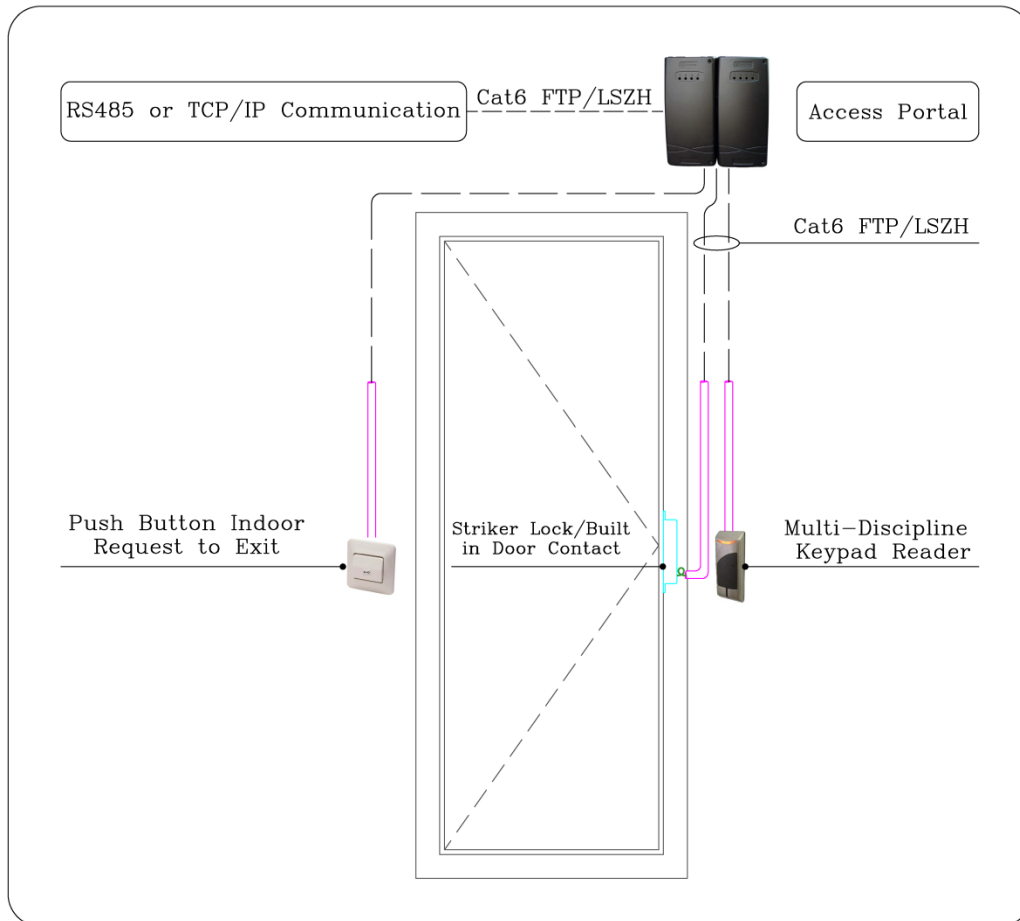

Figure 1.2.11: Door Connection to the AMS
- If the end user wants to add the access control system of his/her apartment to the AMS, a floor controller should be installed in the Telecom room located at each floor (220v power supply should be provided in the same location). Added to that, a Cat.6 cable should be extended from the floor controller to loop each apartment's ONU as shown in Figures 1.2.11 & 1.2.12. The loop should pass by each ONU without cutting where a minimum of 35cm from the cable should be kept inside a 3"x3" plastic box (two rounds inside the back box) at the lower part of the ONU.